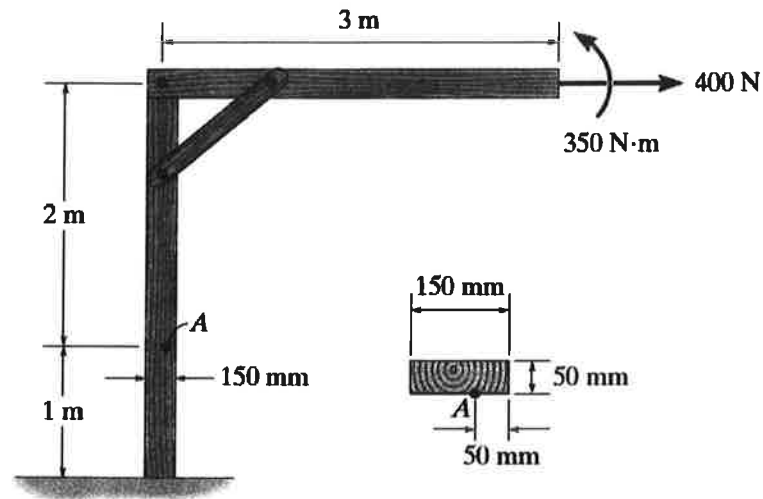

Figure 5
4. The frame as shown in **Figure 5** is subjected to a combined load of 400 N horizontal force and 350 Nm couple moment.